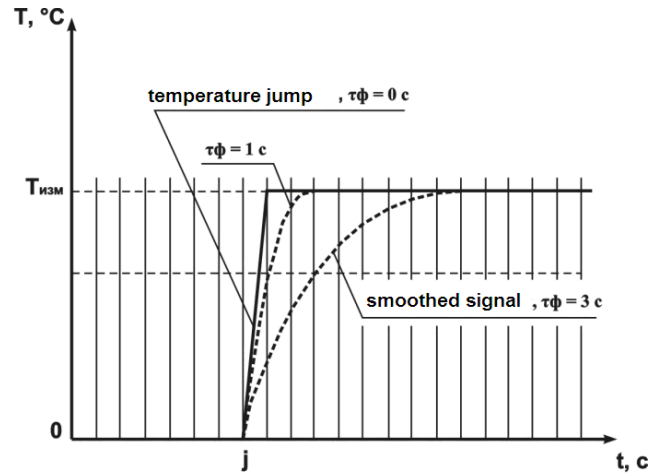

Figure 3.6
3.2.4.2 The digital filter eliminates the noise signal components by smoothing it exponentially. The main characteristic of the exponential filter is  $\tau\phi$  – the digital filter time constant,  $Ft_1$  ( $Ft_2, Ft_3, Ft_4$ ) interval, within which the temperature reaches the 63,2% from measured value  $T_{изм}$  (Figure 3.6).